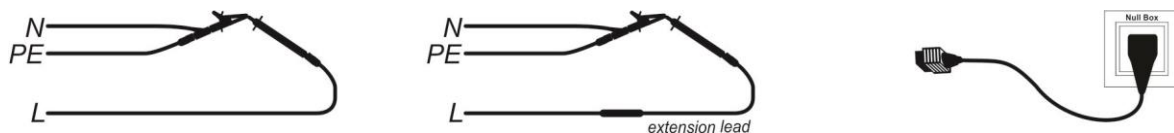

Figure 5.17: Examples of connections for compensation
- **Connect** test cable to the instrument and short the test leads together appropriately (see Figure 5.17: ).